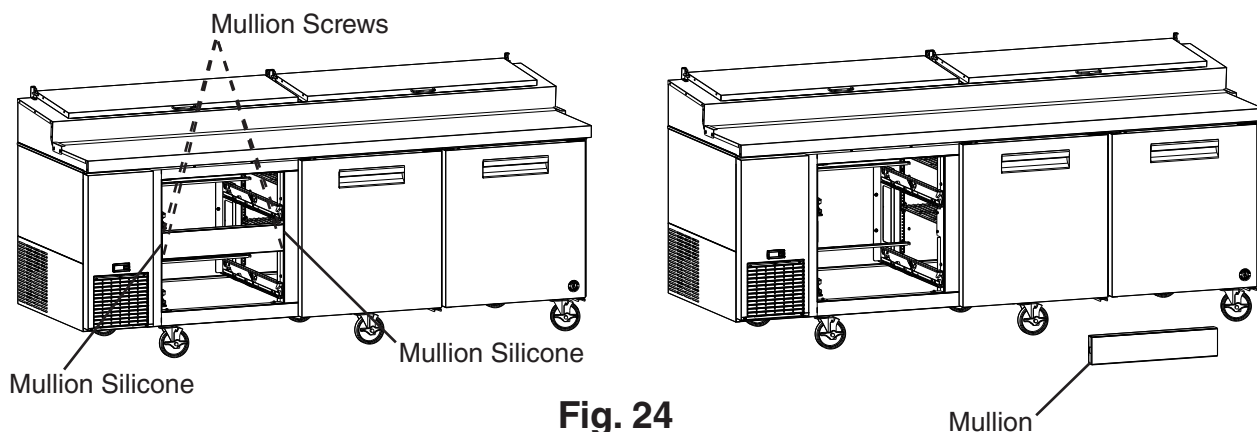

Fig. 24
- 3) Remove the 4 mullion screws, then cut the front mullion silicone loose and remove the mullion. See Fig. 24.